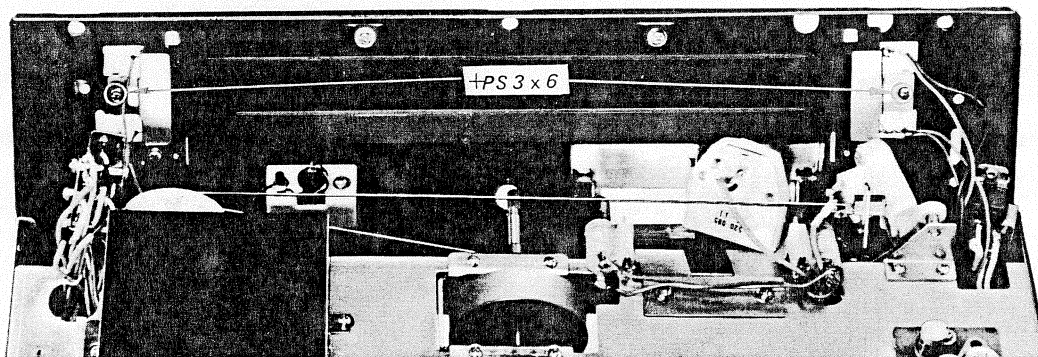

Fig. 2-7 Dial lamp removal
1. Remove the screw (+PS 3 X 6) securing the dial lamp socket to the front subchassis. See Fig. 2-7.